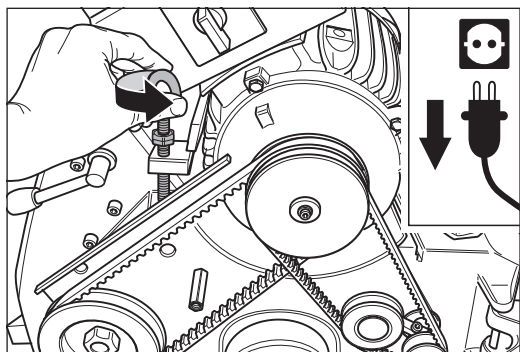

Fig. 59 Release the V-belt tension by loosening the tensioning bolt at the motor.
- 5 Release the tension of the V-belts by turning the tensioning bolt at the motor counterclockwise (Fig. 59).